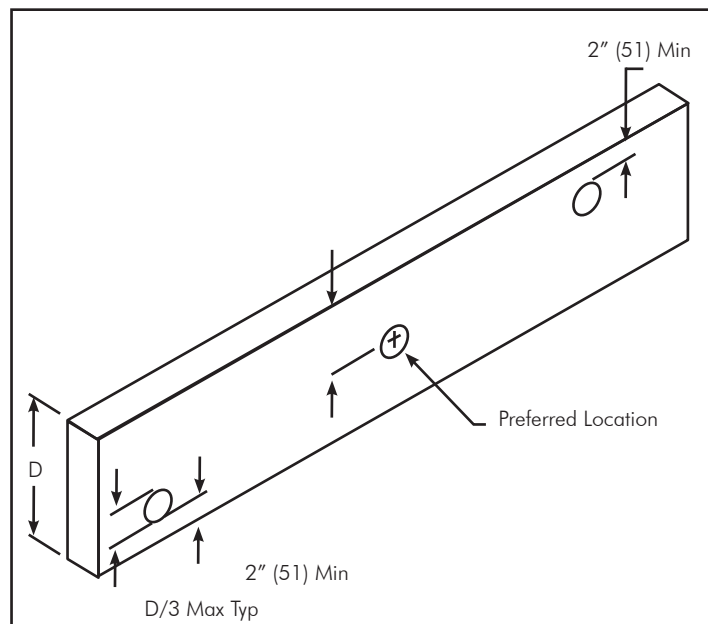

FIG. 4-7 Holes in Wood Joists
- Where a hole is to be bored in a joist, the hole should be located at the centerline, otherwise no closer than 2" (51mm) from the nearest edge of the joist, and the hole diameter shall not exceed 1/3 the depth of the joist (see **FIG. 4-7**).